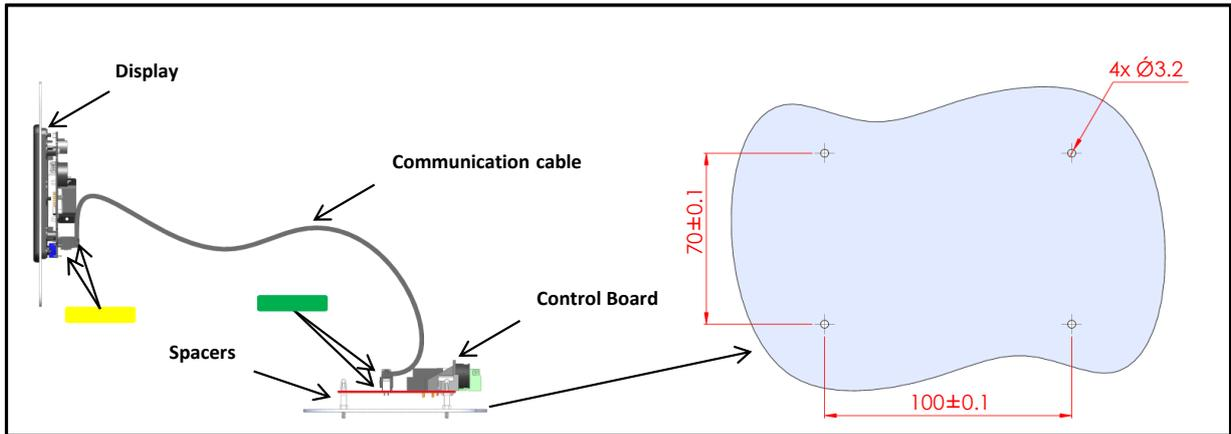
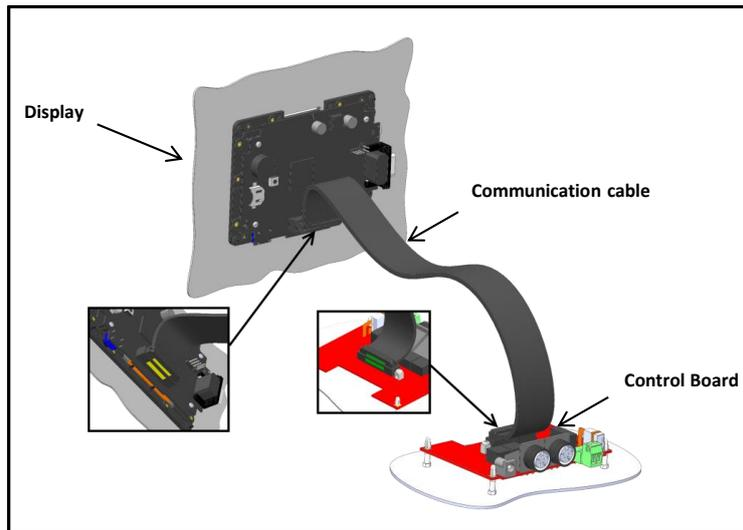

Figure 83. System Lateral View and holes dimensions on the support
Figure 84. System 3D View
Note ► Follow the color code carefully in order to assembly the Communication cable, see Figure 83 and Figure 84. Incorrect wiring might break or damage the H401-T-CONTROLLER-OEM.
5. Mount the control board on a support by the spacers as shown in Figure 83. Spacers holes dimensions are indicated in Figure 83.
The final configuration is the one shown in the 3D View of Figure 84.